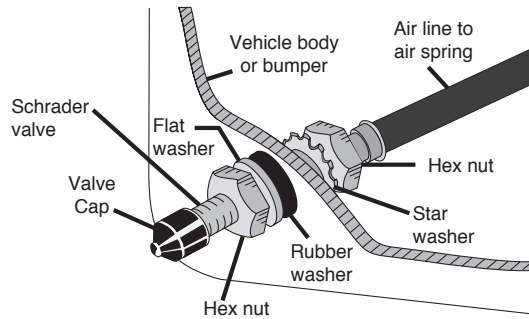

fig. E.3
- Route the air line along the frame to the air spring fitting (Fig. E.3). Keep AT LEAST 6" of clearance between the air line and the exhaust system. Avoid sharp bends and edges. Use zip ties to secure the air line to fixed points along the chassis. Do not pinch the air line. Leave at least 2" of slack to allow for any movement that might pull on the air line.